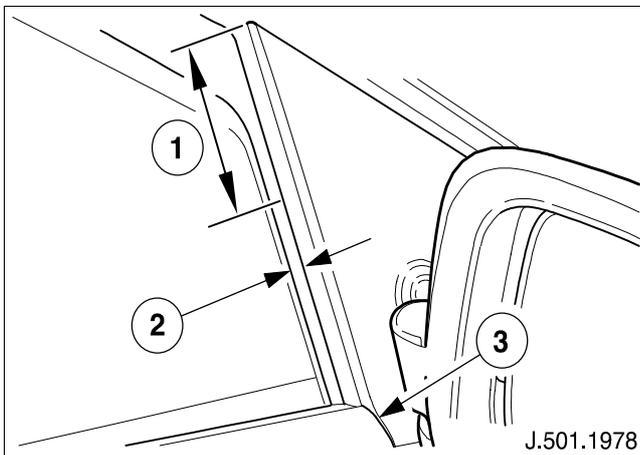

Fig. 3
The mirror base should sit evenly on top of the waist finisher along the length of the flip seal (3). (See Fig 3)
- 9 Re-assess the mirror base fit to the glass seal. (Check against the dimensions shown in Fig. 3)